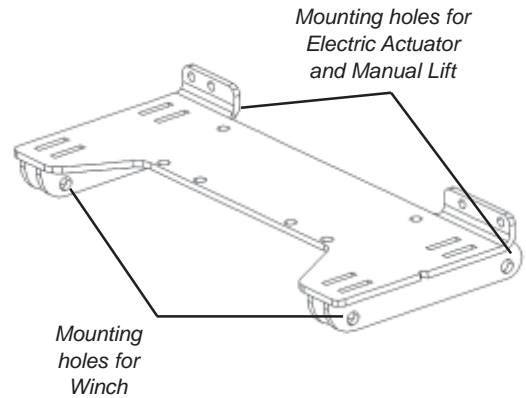

Figure 4 Mounting Locations
8. If not already done so, assemble the plow per the instructions that came with the plow blade kit. Attach the plow to the plow mount (A1) using the clip pins that came with the plow blade. Mount the plow to the forward holes in the plow mount if using a winch to lift the plow. Mount the plow to the rear holes in the plow mount if using either an electric actuator or manual lift to lift the plow. Use figure 4 as a reference.